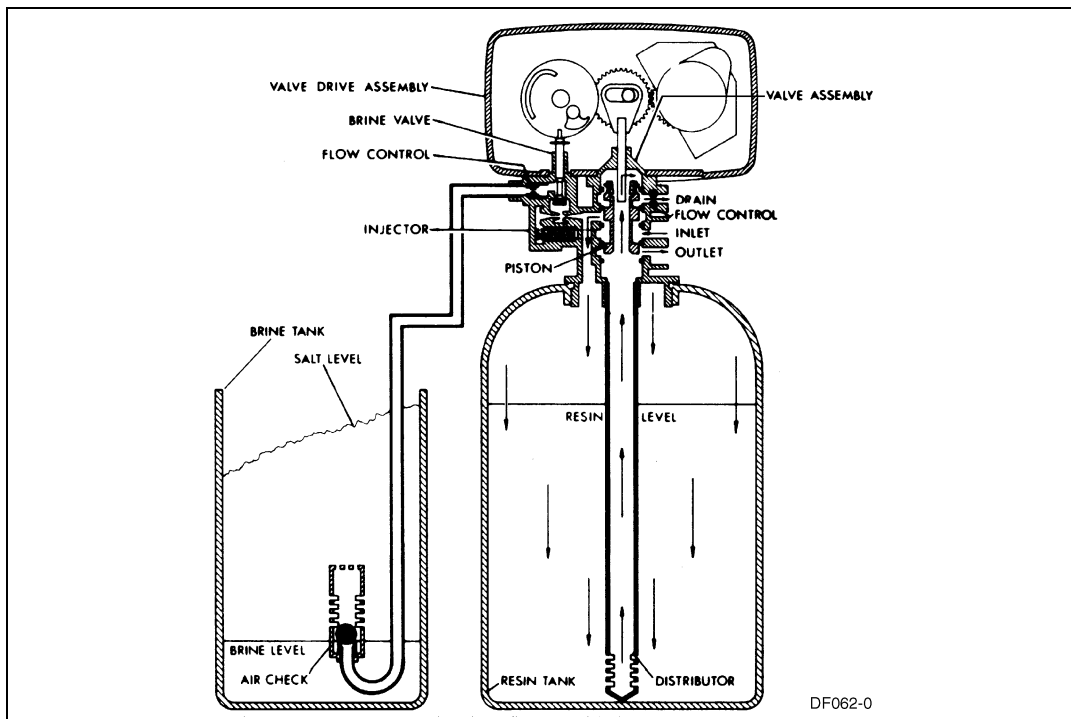

Figure 10: Settling Rinse Position
- Same as *Figure 10, page 13* with standard or filter piston.